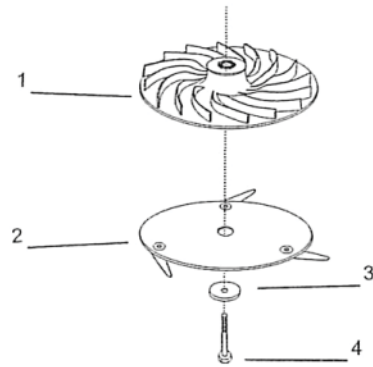

Figure 16
4. **To obtain a higher cut** remove the height adjustment spacer (s) from the impeller hub. Remount the cutter disc to obtain the highest cut - do not use any spacers. Install the flat washer and the Impeller retaining bolt. Tighten the bolt securely. (Fig 16)
- a. Remove the height adjustment spacer (s) from the impeller hub. (Fig 16)